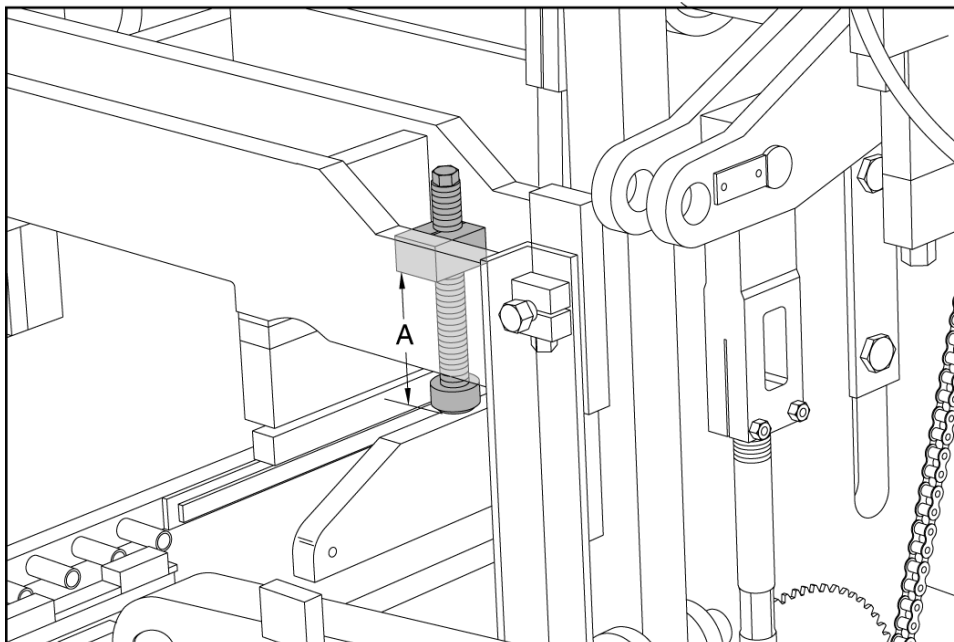

Figure 4.61 INSTALLING SHOCK ABSORBERS AND ADJUSTING
- 4.4.7 Install the **445mm [17 1/2"]** shock absorbers (**part #395992**). Adjust the shock absorbers to a dimension of **300mm [11.812"]** (represented by "A" in figure 4.61 from the bottom of the welded clamp block to the bottom of the rubber pad.